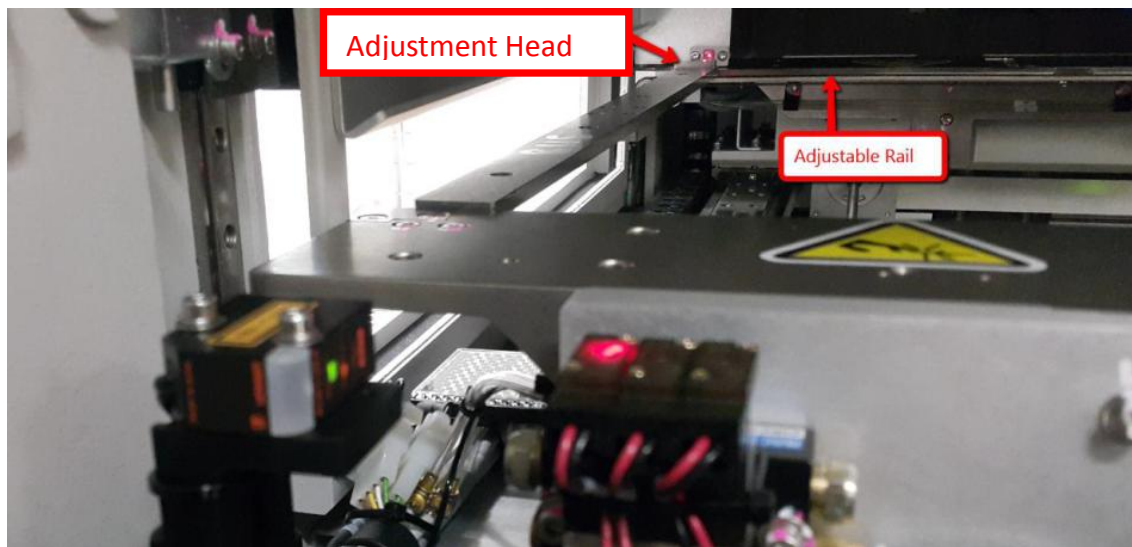

Figure 10 Filter Height Sensor Jig
10. Next, rotate the adjustment head at Adjustable Rail as Figure 10 and record intensity reading for 10.5 mm & 10.0 mm